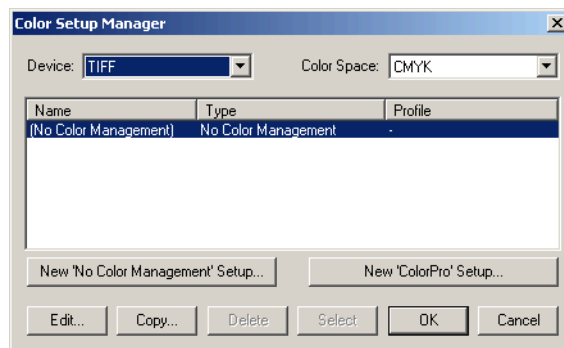
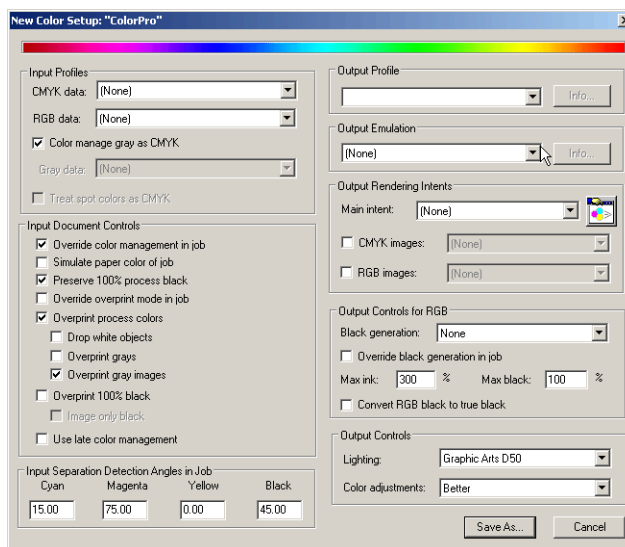

Figure 14 The Color Setup Manager
Figure 15 The New Color Setup dialog (Eclipse Release)
Using the Color Setup Manager (Figure 14) and the options that are available in the New Color Setup dialog (Figure 15), you can add your own color setups to specify precisely how you want the colors in your jobs to be processed.
1. Select Color > Color Setup Manager to open the Color Setup Manager (Figure 14).
3. Click New 'ColorPro' Setup to open the New Color Setup dialog (Figure 15).